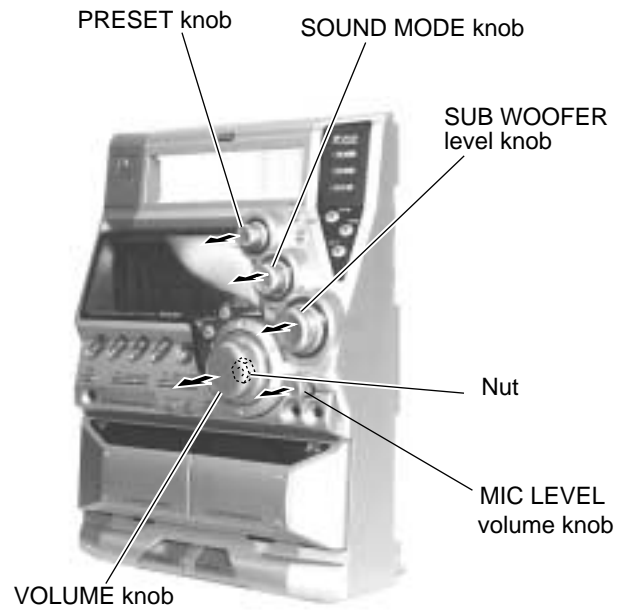

Fig.31
■ Removing the operation switch board (See Fig.31 and 32)